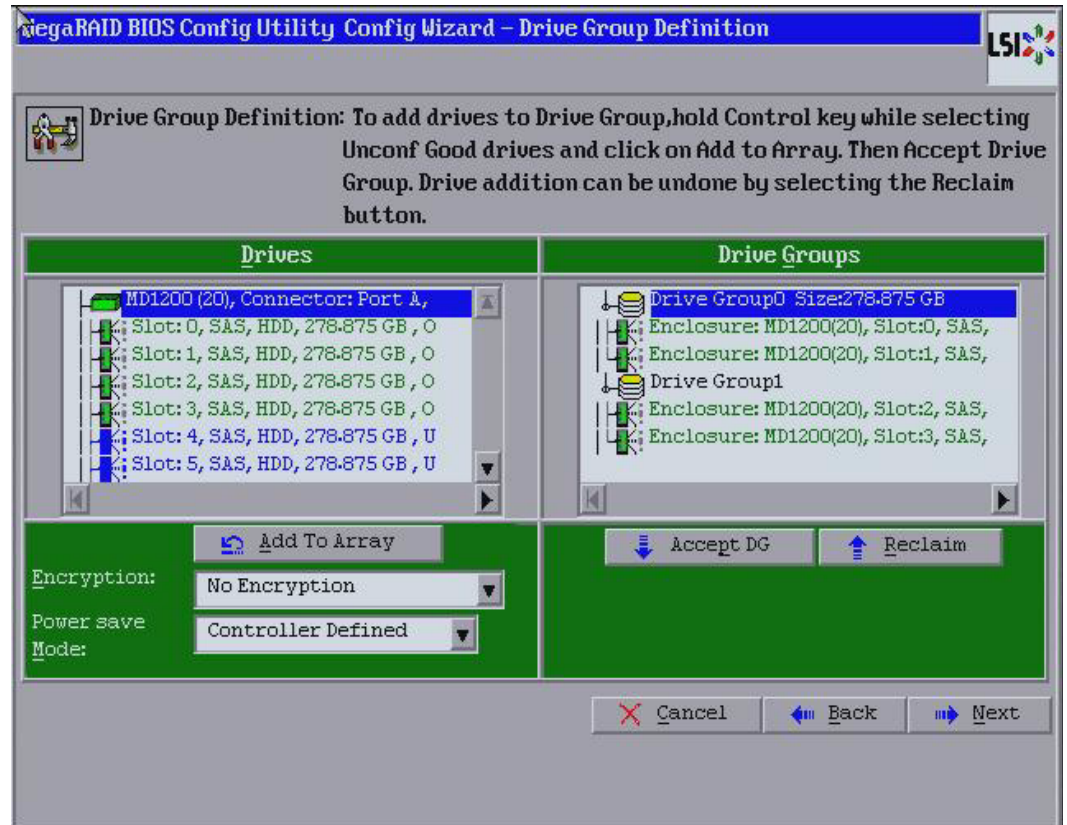

Figure 44: Drive Group Definition Dialog
6. Click **Add To Array** to move the drives to a second drive group configuration in the **Drive Groups** panel, as shown in Figure 44.